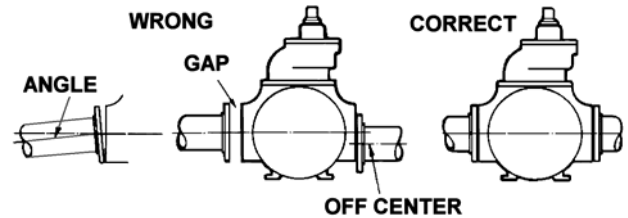

Figure 1
8. Check alignment of pipes to pump to avoid strains which might later cause misalignment. See Figure 1. Unbolt flanges or break union joints. Pipes must not spring away or drop down. After pump has been in operation for a week or two, completely recheck alignment.